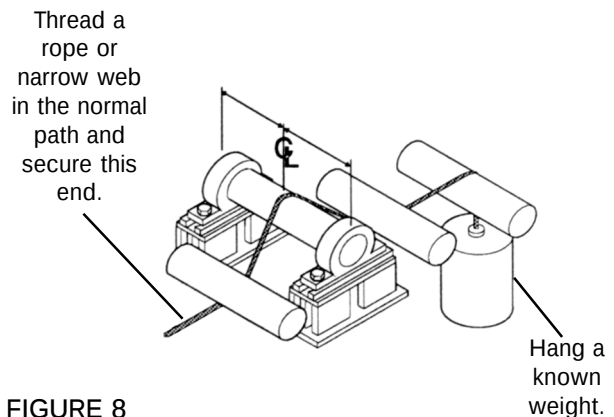

FIGURE 8
2. Thread a rope or narrow web over the Sensor Roll in the normal path. Be sure the rope is at the center of the Sensor Roll. Hang a known weight (within the tension range of the system) on the other end of the rope (See Figure 8).